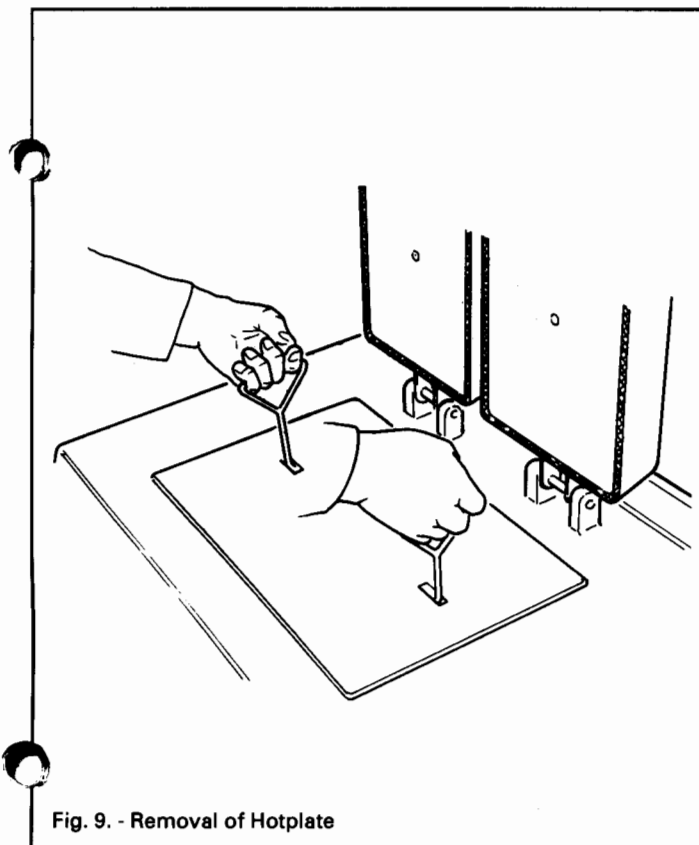
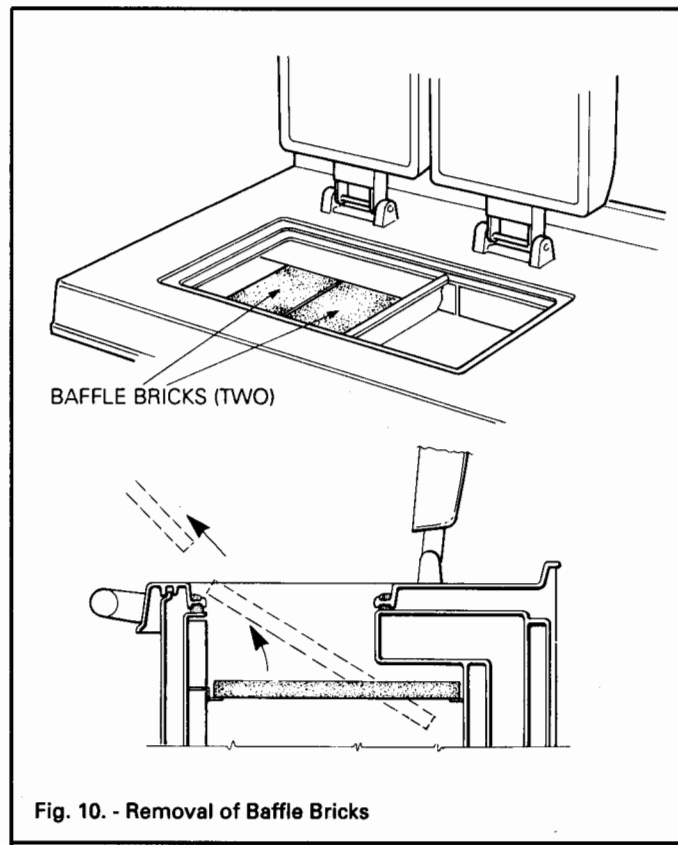

Fig. 9. - Removal of Hotplate
Fig. 10. - Removal of Baffle Bricks
4. Lift up the insulating covers and remove the hot plate (see fig. 9 under commissioning instructions). The removal will expose the two brick baffles (see fig. 10 under commissioning instructions).
Lift out the hot plate (see Fig. 9). Carefully remove the two baffle bricks which are fitted under the hot plate by separating them and lifting at the front (see Fig. 10).